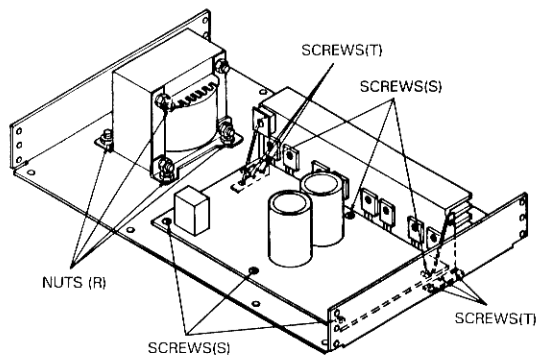

Fig. 6
- (a) Removal of Transistor. (Fig.6)
- Remove 4 nuts (R).
- (b) Removal of Main PCB. (Fig.6)
- Remove 6 screws (S).
- (c) Removal of Heat Sink. (Fig.6)
- Remove 6 screws (T).